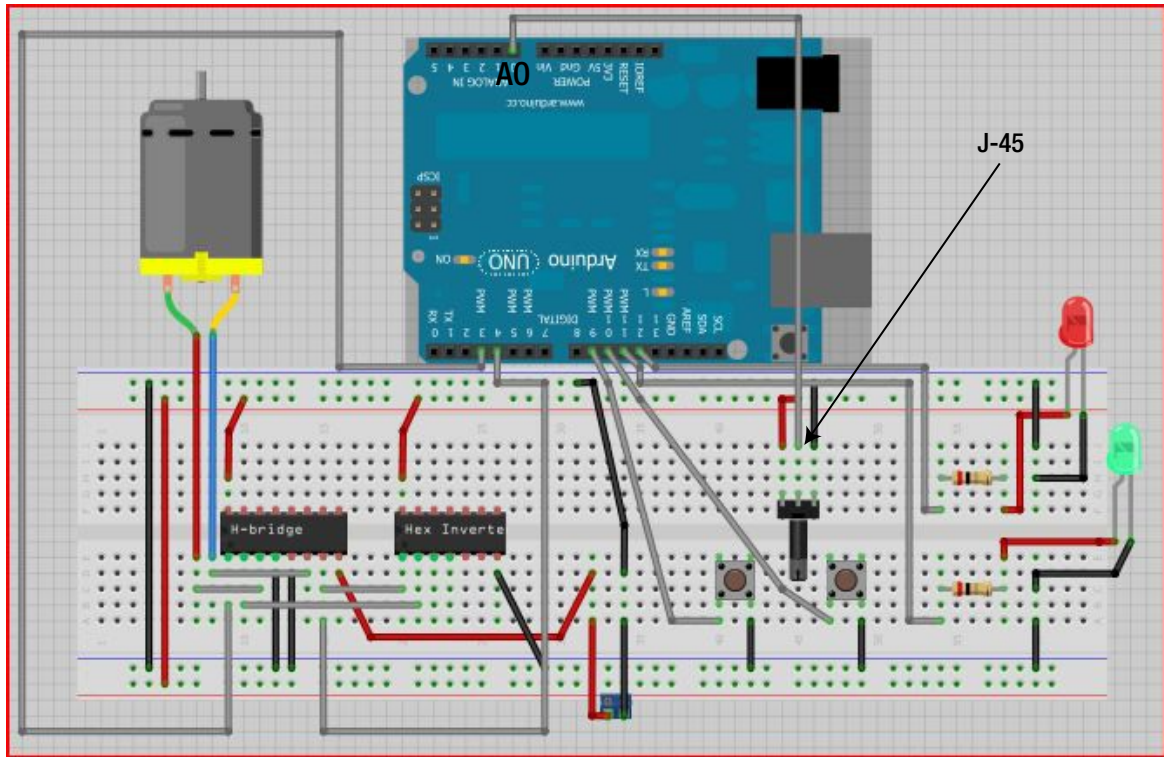

Figure 15-19. Attach the potentiometer to the Arduino
27. Now connect the middle pin of the potentiometer to analog pin 0 of the Arduino by inserting a jumper wire into J-45 and its other end into A0, as shown in Figure 15-19.